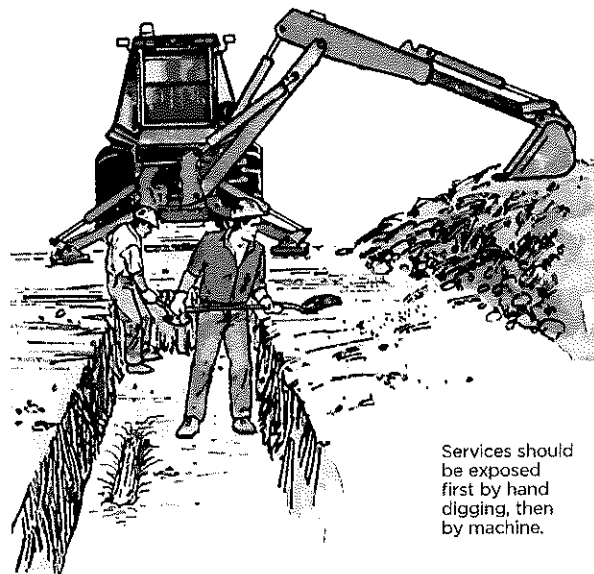

Figure 31-23: Hand Dig to Expose Utilities Before Using Machinery
- (b) hand excavation perpendicular to the centre line of the locate in cuts of at least 1 foot in depth. Mechanical equipment can then be used carefully to widen the hand-dug trench to within one foot of the depth of the hand-dug excavation. Repeat these steps until the utility is located (Figure 31-23).